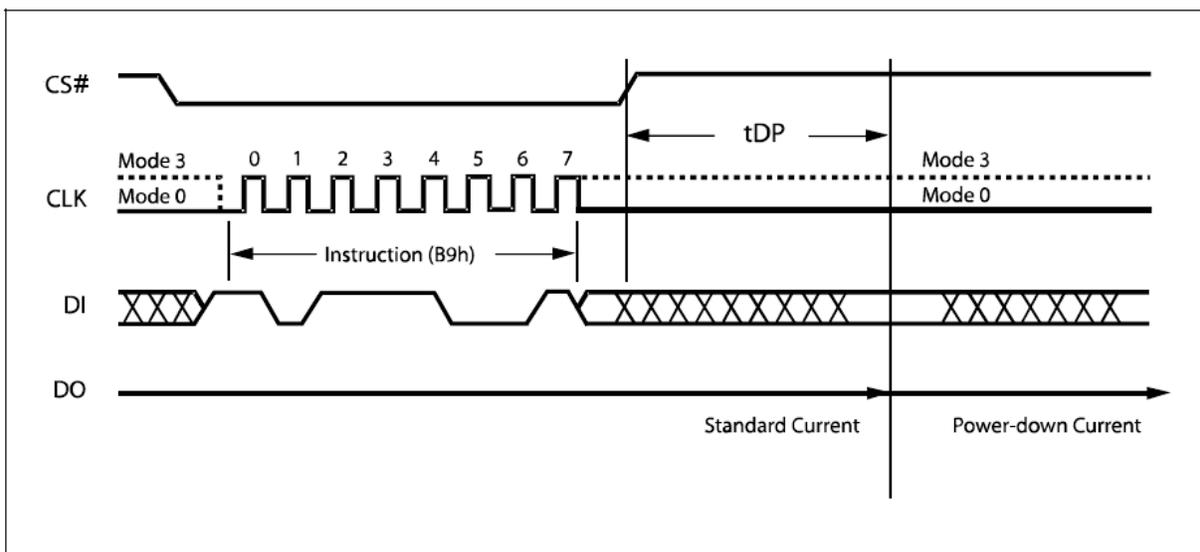

Figure 30. Deep Power-down Instruction Sequence Diagram
The instruction sequence is shown in Figure 30. Chip Select (CS#) must be driven High after the eighth bit of the instruction code has been latched in, otherwise the Deep Power-down (DP) instruction is not executed. As soon as Chip Select (CS#) is driven High, it requires a delay of t_{DP} before the supply current is reduced to I_{CC2} and the Deep Power-down mode is entered.